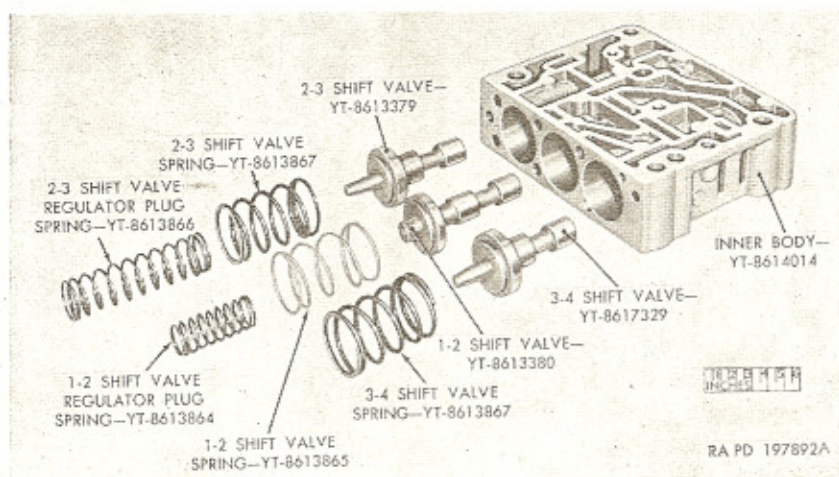

Figure 59. Control valve inner body disassembled.
i. Remove the 1-2 shift valve spring (UU), 1-2 shift valve regulator plug spring (WW), 2-3 shift valve spring (VV), 2-3 shift valve regulator plug spring (XX), and 3-4 shift valve spring (VV) from inner body (RR) (fig. 59). The 2-3 and 3-4 shift valve springs (VV) are identical.
j. Remove 1-2, 2-3, and 3-4 shift valves (SS and TT) from inner body (RR) (fig. 59). Valves should be free to move from bores in body by pushing on opposite ends with 1/8-inch soft rod (fig. 60).
i. Install the 1-2 shift valve (TT) and the 2-3 and 3-4 shift valves (SS) in outer bores of inner body (RR) fig. 59. Check each valve for freeness in its respective bore. The 2-3 and 3-4 shift valves are interchangeable.
j. Install the 1-2 shift valve regulator plug spring (WW) and the 1-2 shift valve spring (UU) in the center bore of inner body (RR) (fig. 59).
k. Install the 2-3 shift valve spring (VV) and the 2-3 shift valve regulator plug spring (XX) in inner body (RR). Install the 3-4 shift valve spring (VV) in inner body (fig. 59).